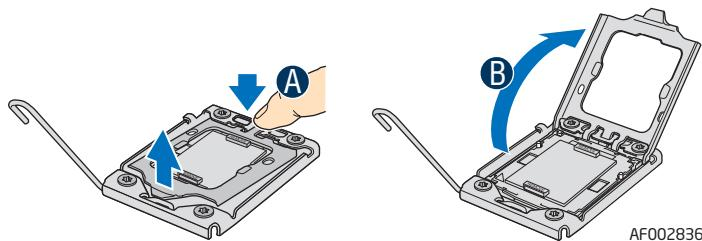

Figure 11. Opening the Load Plate
11. Push the rear tab with your finger tip to bring the front end of the load plate open slightly (see letter "A" in Figure 11).
12. Open the load plate (see letter "B" in Figure 11).